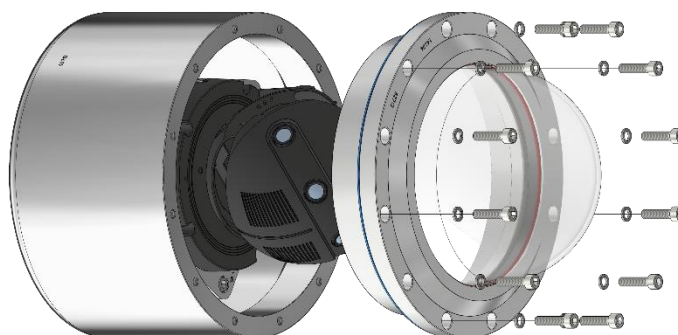

Figure 6-1 Opening the ExCam T08-VA4.1K.PS1
- Carefully pull out the dome flange strictly vertically/perpendicularly (see Figure 6-1). There is a risk of side tilt! Because of negative pressure it may be difficult to remove.